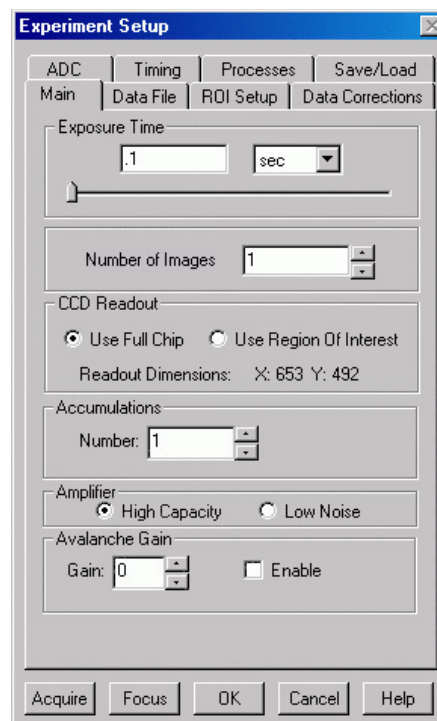

Figure 41. Experiment Setup: Main tab page
1. Open the Experiment Setup dialog (Figure 41) from the Acquisition menu or by clicking on the  button on the **Custom Toolbar**.